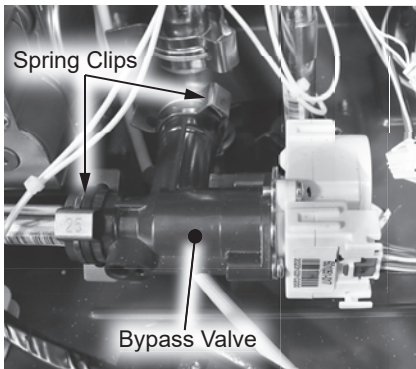

Figure 179 - Bypass valve location
**17** Locate the bypass valve at the bottom front side of the water heater as shown in Figure 179. Disconnect the wiring harness from the valve.
**18** Remove the two (2) spring clips (size 25) securing the bypass valve to the piping system. Remove the bypass valve from pipe connections. Place components aside in a safe place for reinstallation. See Figure 179.